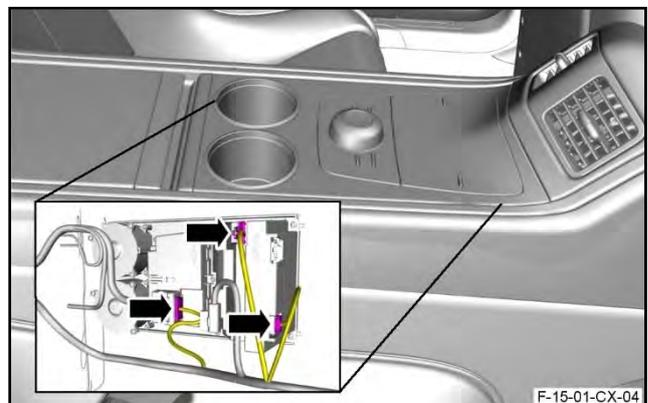

Figure 36
45. Disconnect the three electrical connectors from the rear centre stack assembly (refer to Figure 36).